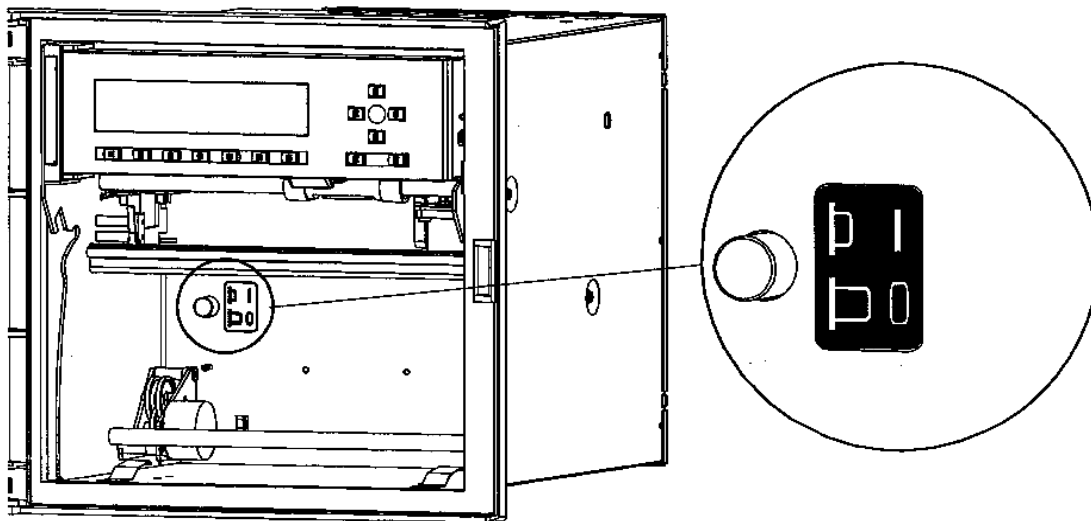

Figure 2-1
3. Turn OFF the switch (See Figure 2-1)
15. Turn ON the switch (see Figure 2-1)